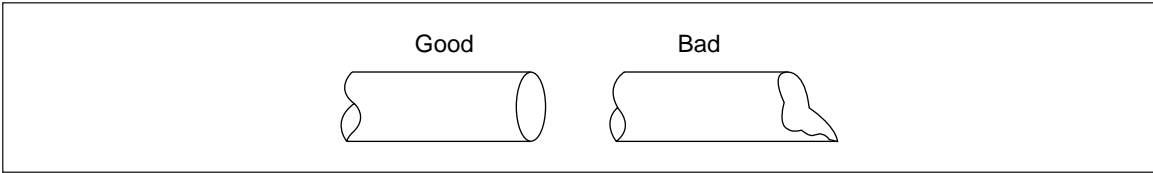

Figure 5-1 Processed Fiber-tip Examples
- (iv) Hold the fiber tip with a pair of tweezers and bend to snap, then expose the clean surface. When the surface of the fiber cannot be snapped flatly, try again (figure 5-1). Be careful when processing a fiber; the extremely thin core of the fiber may easily pierce human skin.
(6) Mounting a device on a thermal radiator